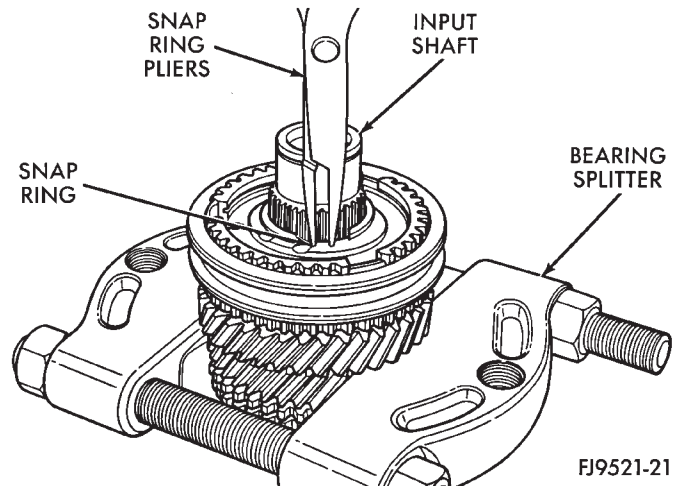

Fig. 105 5th Gear Synchronizer Snap Ring Installation
(12) Install 5th gear synchronizer snap ring (Fig. 105).